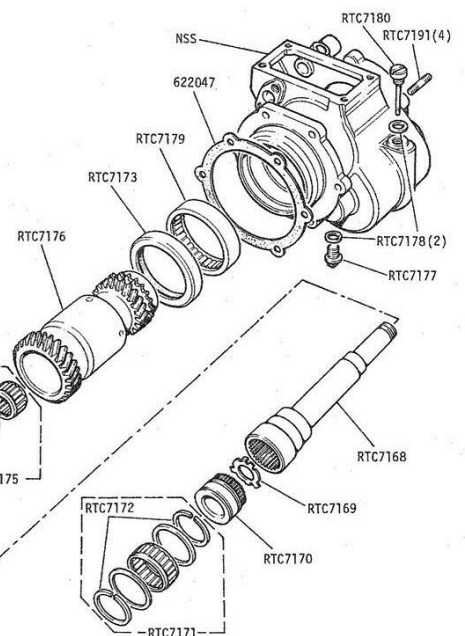

figure 3
3. Drain the oil by removing the drain plug (RTC7177, fig. 3). The unit contains 0.4l of EP90 type oil.